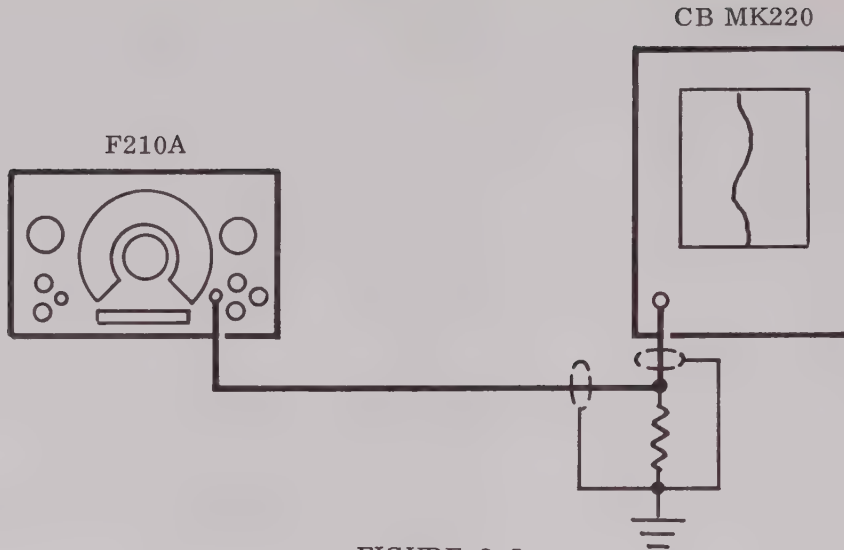

FIGURE 3-5
2. Interconnect the equipment as shown in Figure 3-5, observing signal and ground connections carefully.